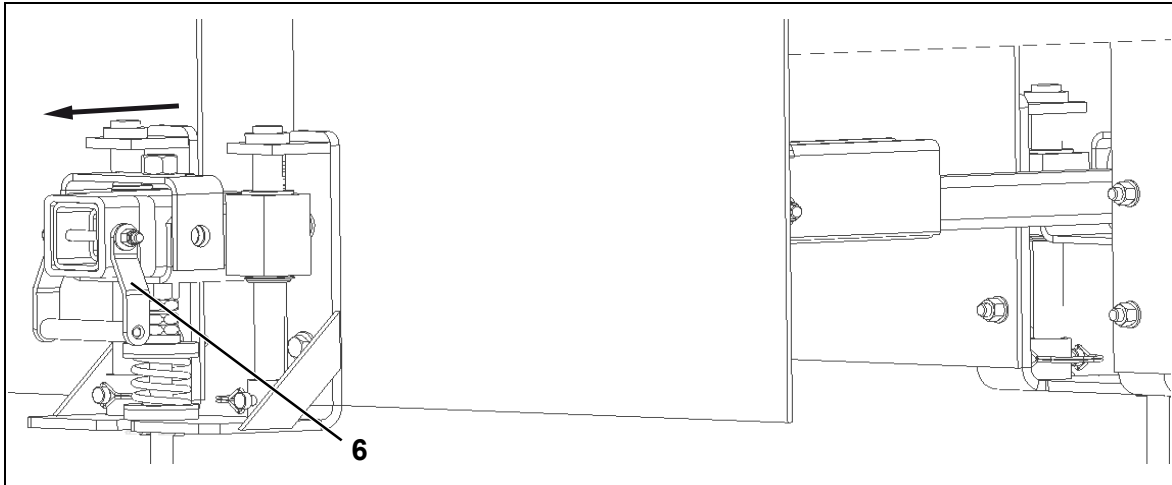

Fig. 28
a) Remove one or both end stops (10, Fig. 28).